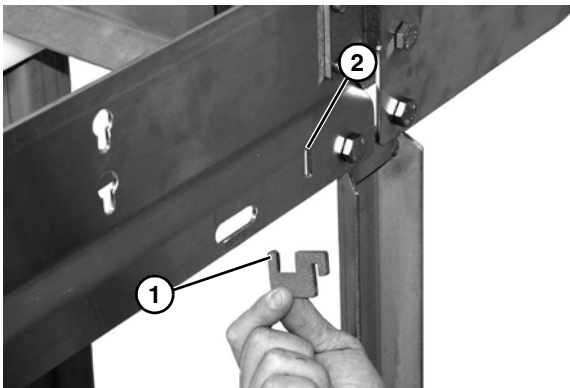

Figure 15
1. Install belt return mounting bracket (**Figure 15, item 1**) into slotted frame hole (**Figure 15, item 2**).